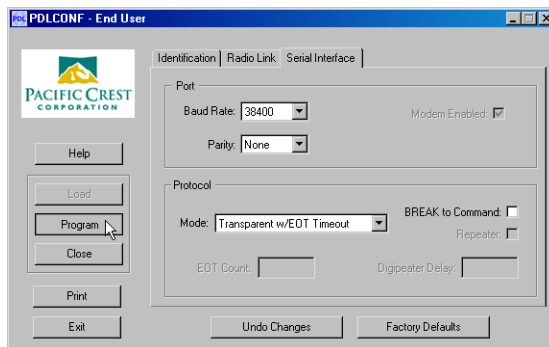

Figure 2-33. PDL – Click Program
15. If you made changes, click the Program button on the left of the screen to save them to the modem's memory (Figure 2-33).